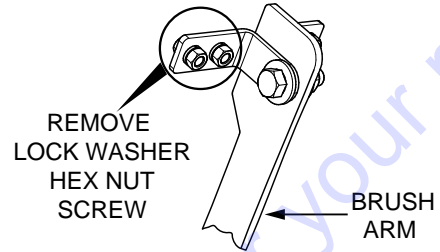

Figure 24. Brush Arm Hardware Removal
1. Using a 7/16" wrench, remove the four 1/4-20" hex nuts and 1/4" lock washers (Figure 24) located on top of the left and right brush arms.